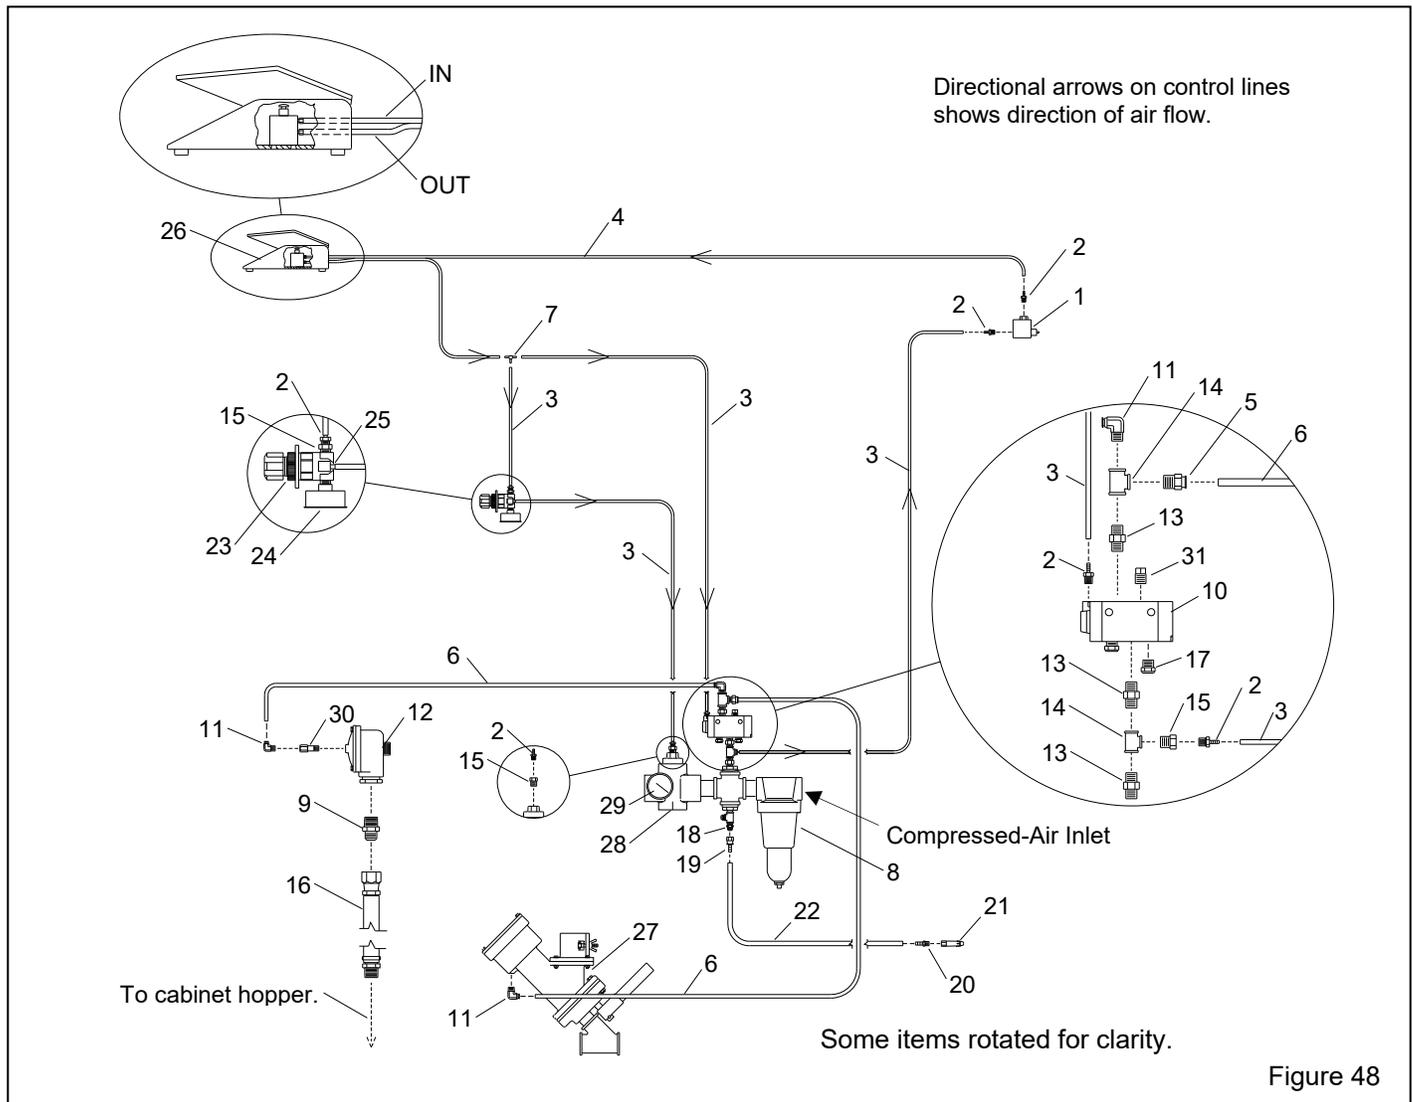

Figure 48
9.7 Plumbing and Cabinet Controls – Figure 48